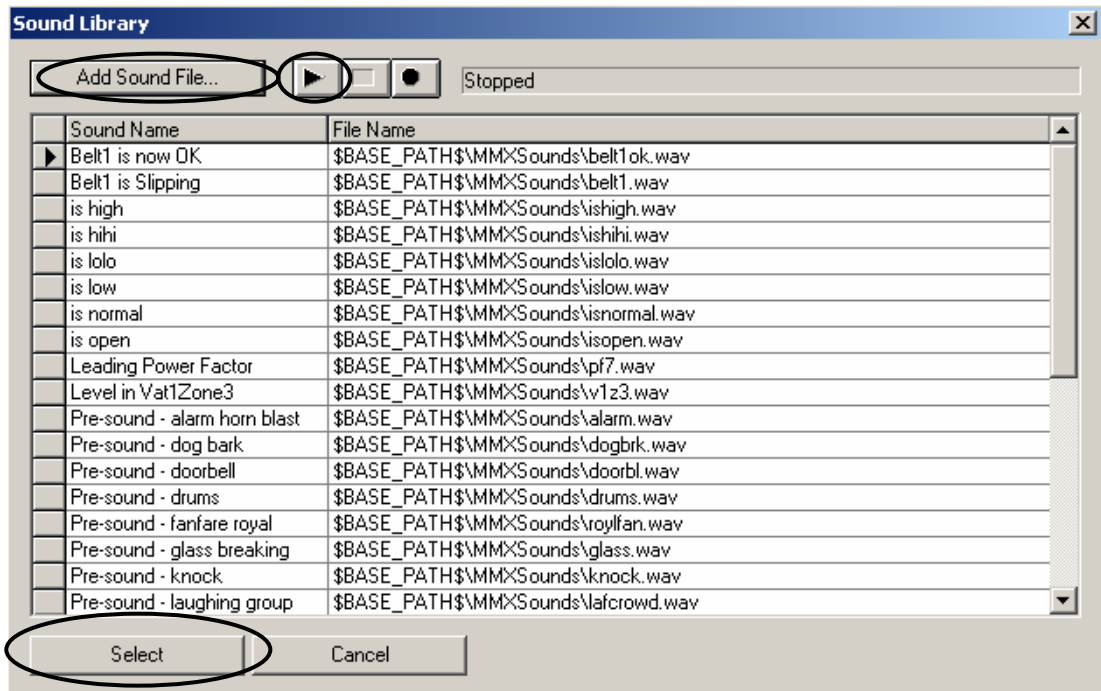

Figure 9.30. Selecting Sound Files From the Sound Library
2. This opens the **Sound Library** dialog box, shown in **Figure 9.30**. Click the **Add Sound File** button to browse for .wav files. Click **Open** to add the selected file to the Sound Library. To listen to a file, highlight the file and click the **Play** button. To select an existing sound file from the Sound Library, highlight the entire row for that file, and then click the **Select** button. The selected sound file appears in the configuration field you selected.